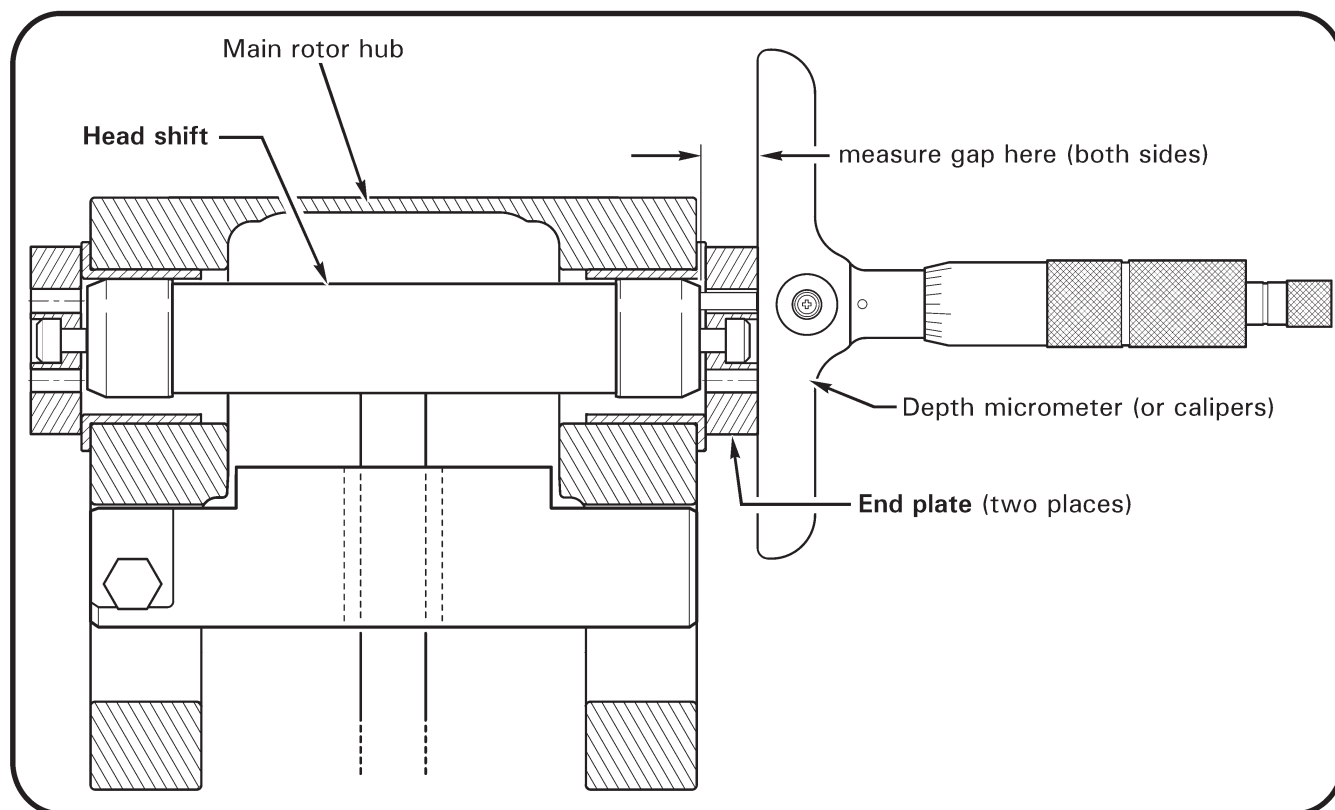

FIGURE 28-11C MEASURING GAP BETWEEN THRUST WASHER AND HUB BEARING
6. Refer to Figure 28-11C. Insert depth micrometer (or calipers) thru (either) hole of MT524-3 end plate until dowel contacts MT524-4 shaft and mark dowel at edge of end plate; repeat on opposite side of hub. Determine side of hub with smaller measured distance and mark top of hub with letter "N" to indicate nut-side of teeter hinge bolt.